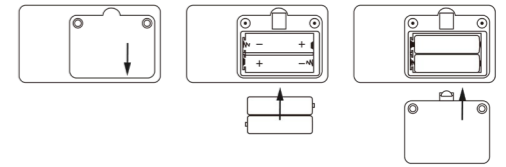

Figure 3. Batteries assembly
- A. Refer to Figure 3. Use a screwdriver to unscrew the two screws from the battery compartment on the back of the product and open the back cover of the battery compartment.